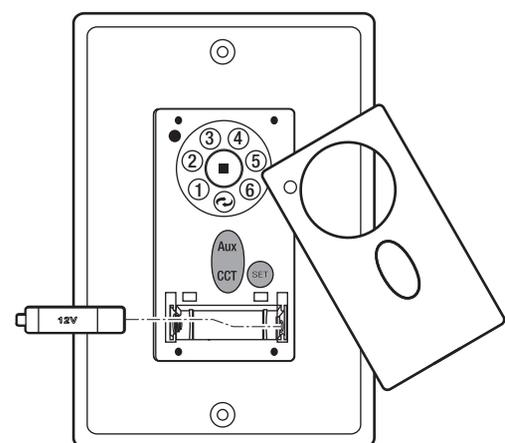

Figure 18
Remove the panel from the transmitter and then install one 23A/12V battery (included). To prevent damage to transmitter, remove the battery if not use for long periods of time. (Fig. 18)
3. Within 30 seconds of turning AC power on, press and release the "SET" button five seconds to enter the learning function. The down light of your fan, if applicable, will blink twice, and the fan will automatically begin to operate and start to rotate in counterclockwise direction and on the highest RPM for 1 minutes. When counterclockwise rotation has finished, the fan will automatically reverse to clockwise direction again to the highest RPM for 1 minutes. Fan will shut off when the self-calibration test has finished. The total self-calibration test will last about 2 minutes. (Fig. 18)